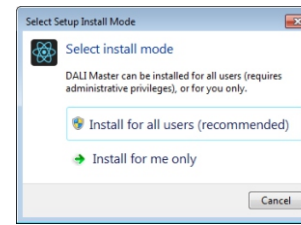

Figure 1 Select Installation Mode
Step 1: Run the installation file and select installation mode as shown in Figure 1.